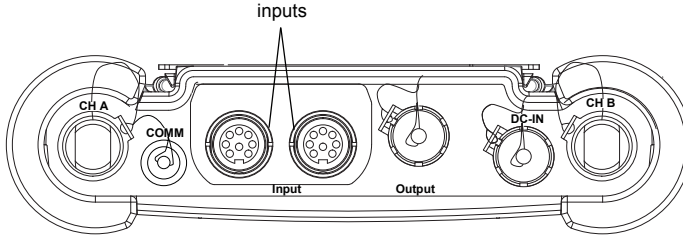
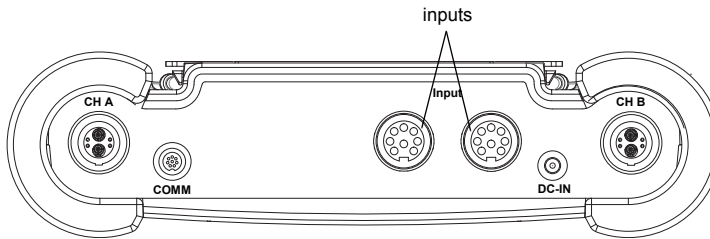

Fig. 7.16: Connections of the transmitter FLUXUS F608**-A2
Fig. 7.17: Connections of the transmitter FLUXUS F608**-F2
- Connect the power supply unit to the socket on the upper side of the transmitter (see Fig. 7.16).
Temperature probes Pt100/Pt1000 (4-wire) can be connected to the inputs of the transmitter (optional) (see Fig. 7.16 or Fig. 7.17).